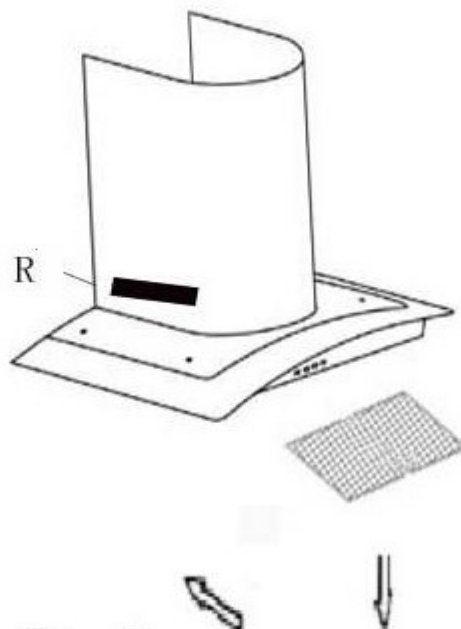

Fig. 2
- ✓ **Remove the metal anti-grease filters (see Figure 2 below) and find the old bulb located in the light fixture up inside the exposed canopy. Change the halogen bulb using only olive-shaped spares with an E14 coupling, max. 40W.**
- 1) Press the handle of the metal grease filter towards the rear part of the unit until it is released from the front housing, and remove it by pressing downwards (Fig. 2 - below).